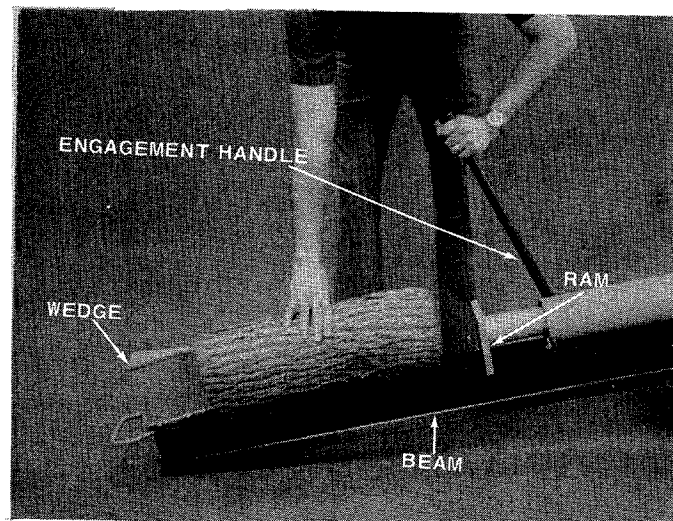

FIGURE 11
- D. Place log on beam and hold in place with right hand. See figure 11.